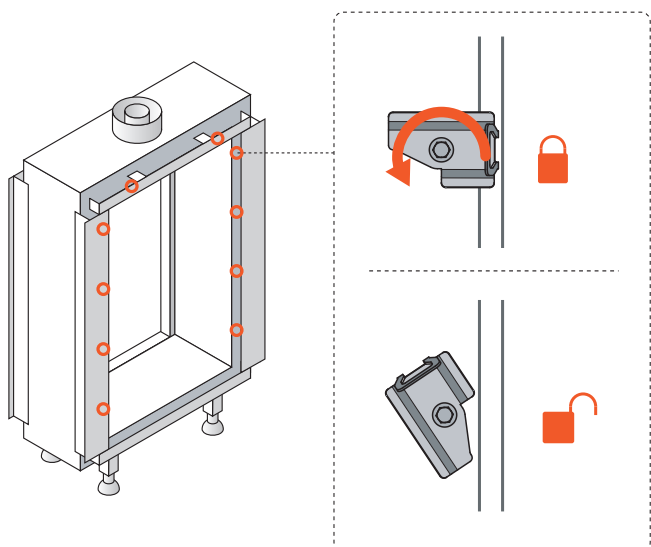
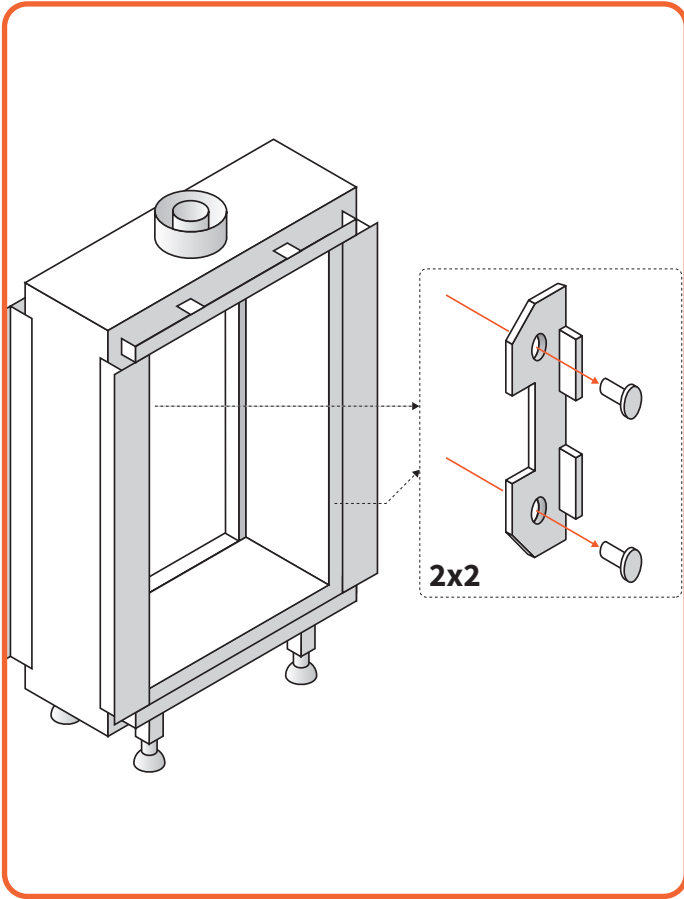

Figure 11.8 | Turn glass clamps to release glass
Figure 11.10 | Remove glass brackets
- Determine which type of glass clamps are used: Screwed clamps - proceed to Figure 11.10, or spring loaded clamps - proceed to Figure 11.8
If screwed glass clamps are used, proceed to Figure 11.10
If spring loaded glass clamps are used, proceed to Figure 11.8